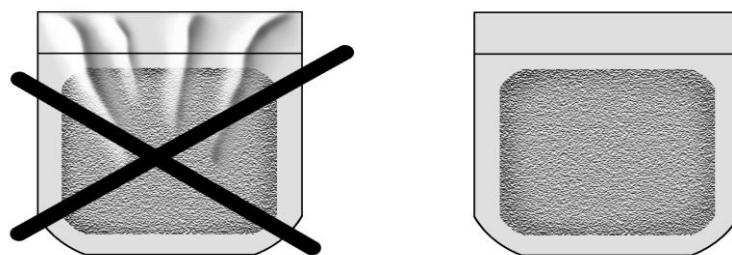

Fig.3
- Take care to avoid any bag folds on the bar, otherwise subsequent loss of sealing is possible (Fig. 3).